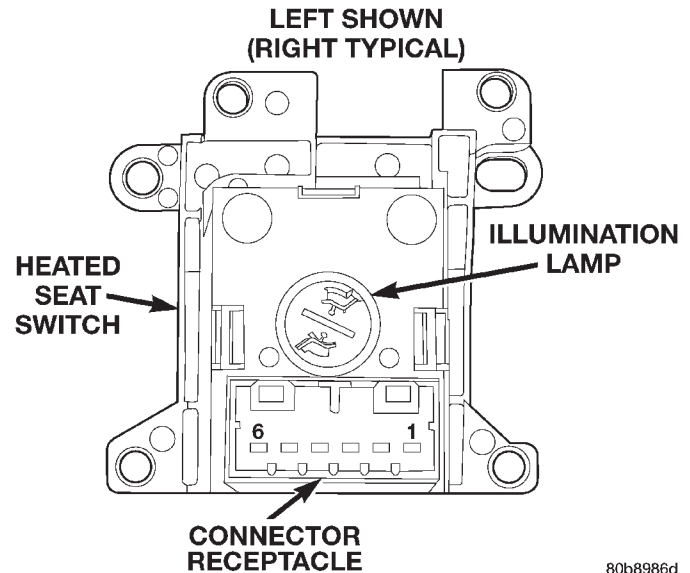

Fig. 1 Heated Seat Switch
(1) Check the fused ignition switch output (run) fuse in the junction block. If OK, go to Step 2. If not OK, repair the shorted circuit or component as required and replace the faulty fuse.
(2) Turn the ignition switch to the On position. Check for battery voltage at the fused ignition switch output (run) fuse in the junction block. If OK, go to Step 3. If not OK, repair the open fused ignition switch output (run) circuit to the ignition switch as required.
(3) Disconnect and isolate the battery negative cable. Remove the lower center bezel from the instrument panel and disconnect the instrument panel wire harness connectors from both heated seat switch connector receptacles. Check for continuity between the ground circuit cavity of the instrument panel wire harness connector for the inoperative heated seat switch(es) and a good ground. There should be continuity. If OK, go to Step 4. If not OK, repair the open ground circuit to ground as required.
(4) Reconnect the battery negative cable. Turn the ignition switch to the On position. Check for battery voltage at the fused ignition switch output (run) circuit cavity of the instrument panel wire harness connector for the inoperative heated seat switch(es). If OK, turn the ignition switch to the Off position, disconnect and isolate the battery negative cable, and go to Step 5. If not OK, repair the open fused ignition switch output (run) circuit to the junction block fuse as required.
(5) Test the heated seat switch(es) (Fig. 1) as shown in the Heated Seat Switch Test chart. If OK, go to Step 6. If not OK, replace the faulty heated seat switch(es).
(6) Disconnect the 22-way instrument panel wire harness connector from the Body Control Module (BCM) connector receptacle. Check for continuity between the seat heater switch sensor ground circuit cavity of the instrument panel wire harness connector for the inoperative heated seat switch(es) and a good ground. There should be no continuity. If OK, go to Step 7. If not OK, repair the shorted seat heater switch sensor ground circuit as required.
(7) Check for continuity between the seat heater switch sensor ground circuit cavities of the instrument panel wire harness connector for the inoperative heated seat switch(es) and the 22-way